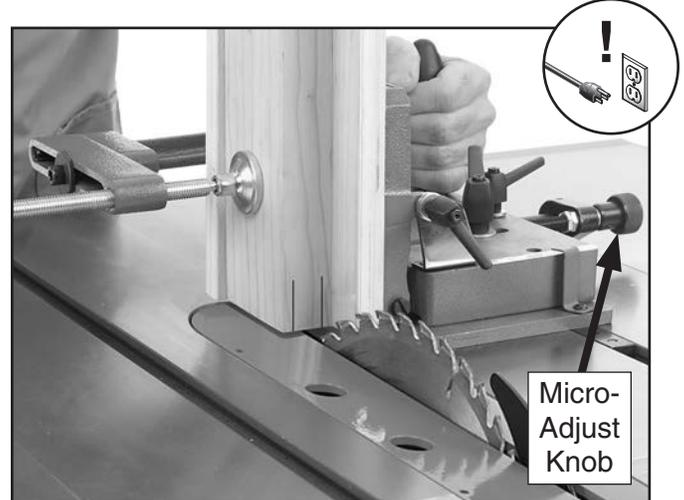

Figure 28. Aligning workpiece for first structural cheek cut.
- Slide jig and workpiece up to saw blade, then use micro-adjust knob to correctly align first structural cheek cut mark with saw blade (see **Figure 28**).
Note: Remember to allow for width of kerf when aligning workpiece. Also, keep cuts close to side support backing board, as shown in **Figure 28**, to support waste piece and reduce risk of it breaking off during cut.
- Firmly grasp both handles of jig, then slowly slide jig and workpiece through blade to make first structural cheek cut (see **Figure 28**).